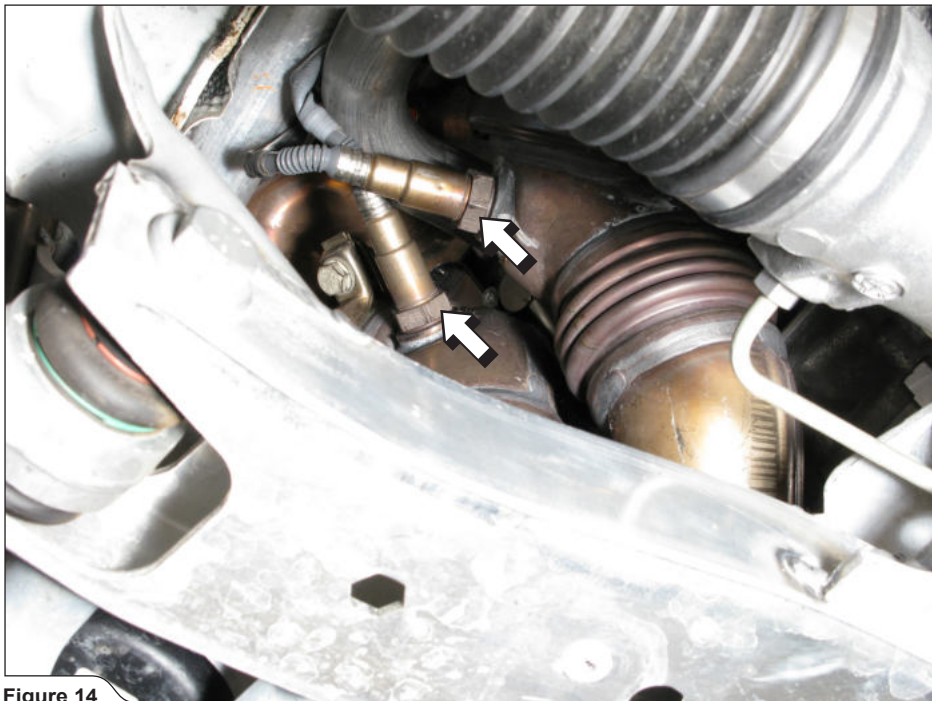

Figure 14
13. **For optional Down Pipes:** unscrew the front lambda sensors out of the down pipes (Figure 14).